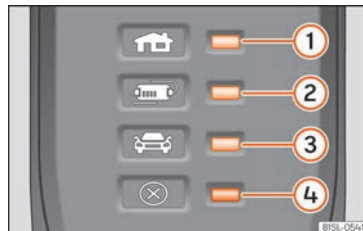

Fig. 62 On the charging cable for power sockets: Indicator lamps on the protection device.
>>> Fig. 62:
The electronic protection device >>> Fig. 62 ensures that the charging connector does not receive current until it is plugged in to the vehicle's charging connector.
One or more control lamps >>> Fig. 62 ①, ② o ③ light up green.
Display >>> Fig. 62	Meaning
①, ④ flashing	The housing connector has overheated.
②, ④ flashing	The protection device has overheated.
If the charging process continues with a lower current, both the operating indicator and the warning lamp >>> Fig. 62 ④ flash red.
- If it disconnects again, or the charging current reduces and the cause does not seem to be exposure to an external heat source, make sure that the green control lamp is flashing >>> Fig. 62. To check the charging cable, please visit a SEAT dealer. Get an establishment that specialises in electrical installations to check the infrastructure connection.
If the red warning light ④ flashes or turns on without one of the indicator lamps >>> Fig. 62 ①, ② o ③ also turning on continuously on the status indicator, there is a fault.